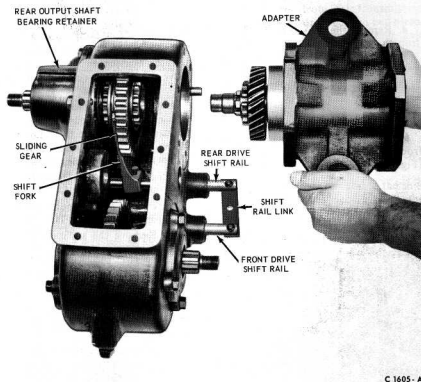

FIG. 7—Removing or Installing Adapter Housing
8. Remove the bolts securing the adapter housing to the case and remove the adapter as an assembly (Fig. 7).
11. Lift the rear output shaft sliding gear from the case (Fig. 7).
12. Remove the set screw securing the rear shift fork to the shift fork to the shift rail. Then, remove the rear drive shift rail and fork from the case (Fig. 7).
15. Position the adapter housing assembly to the rear output shaft and case. Install the attaching bolts (Fig. 7).